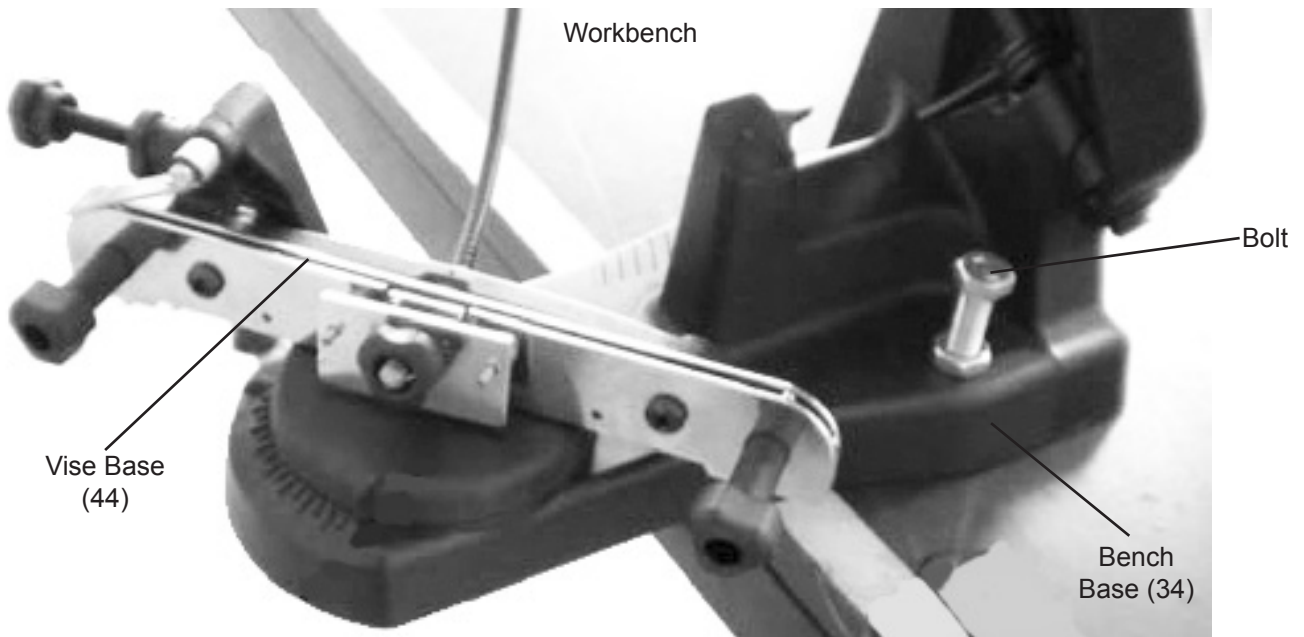

Figure 1
1. Use two 1/4" bolts (not included) to fasten the Bench Base (34) to the workbench, using the two mounting holes on the side of the Base. See Figure 1, below.
2. Once the Bench Base is installed to the workbench, slide the Bolt (59) on the Vise Base (44) through the mounting hole in the center of the Base.
3. Fasten the Vise Base in place by threading on the Angle Adjusting Knob (53) onto the Bolt. See Figure 1, below.